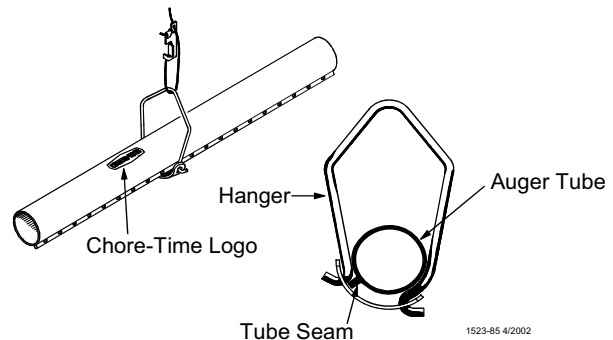

Figure 27. Assembling Feeders on the Tubes
3. To achieve total feed drop out all along the system, the Chore-Time Logo should be centered at the crown of the tubes and all the Hangers should be installed as shown in **Figure 27**.
5. Install the Hangers on the feed line tube at the 8' [2.4 m] spacings determined by the suspension drop lines. **Figures 27 and 30** show the proper installation of the Hanger Assembly. Make sure the outlet drop hole is downward when the Hangers are installed, otherwise feed will not be allowed to drop into the feeder pan.